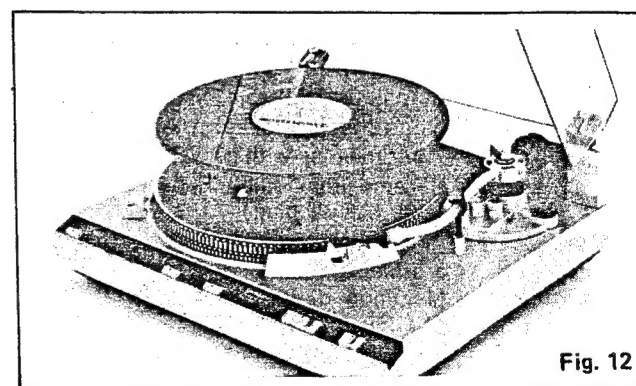

Fig. 12
3. Count the number of records stacked, then set the "memo-gram" knob to the number corresponding to the records; i.e., when you stack three records, set the "memo-gram" knob to the "3" position. (See Fig. 12 and 13.)